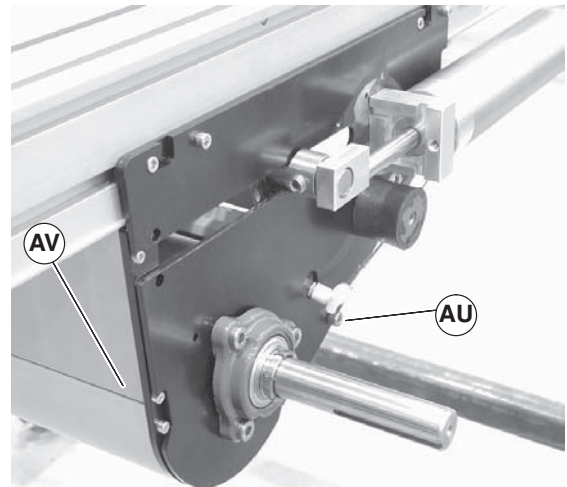

Figure 63
3. Temporarily support the tensioning roller guard (Figure 63, item AV). Remove screws (AU) on both sides of center drive and remove tensioning roller guard (Figure 63, item AV) and (Figure 64, item AV).
5. Push shaft (Figure 63, item AX) through block, slide block (Figure 65, item AY) towards air cylinder (AZ).